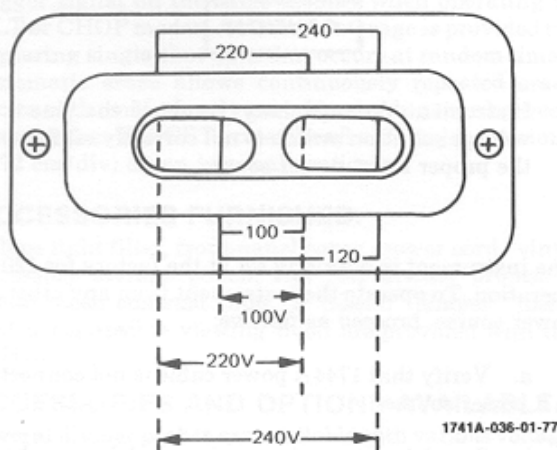

Figure 2. Line Voltage Selection Switch Settings
- Stand instrument on rear-panel legs and use blade-type screwdriver to position power selector switches through opening in bottom cover (figure 2 shows switches set for 120 V operation).